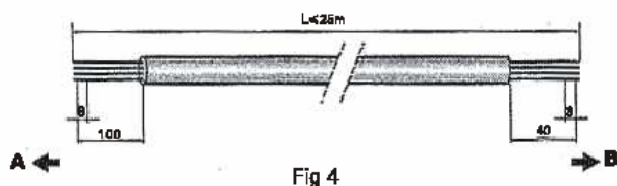

Fig 4
4. Connect the cable ends to the terminals of the indoor and outdoor units , as show in fig4, figs.